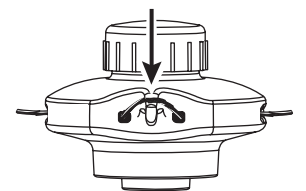

Fig. 8
5. Push the trimmer line behind the hook to secure it from coming loose while running (Fig. 8).